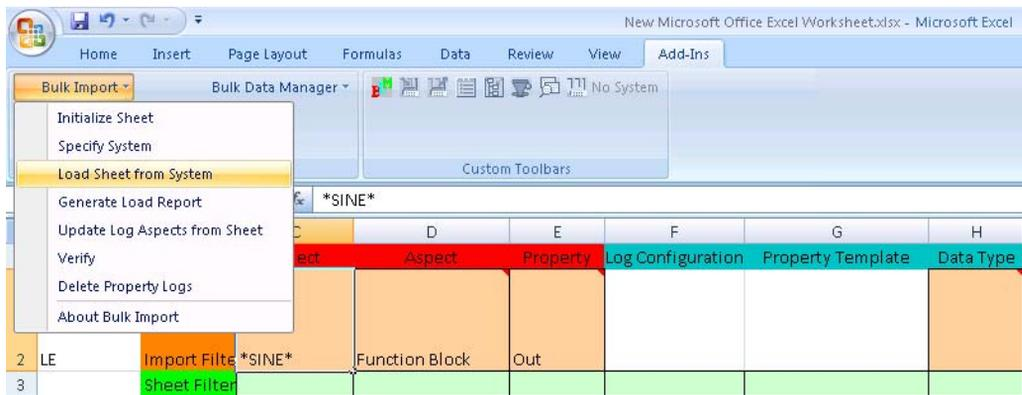

Figure 212. Loading the Spreadsheet with Object Properties
- Once the filter is specified, choose **Bulk Import > Load Sheet from System**, Figure 212. This displays the Object Browser dialog.